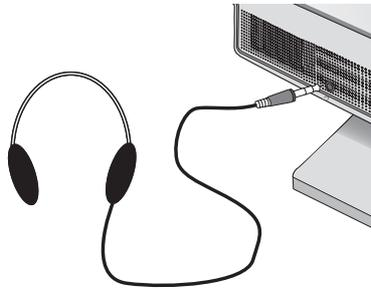

Figure E.1
5. Headphones may be connected to the "Headphones" output on the front of the monitor's bezel marked "🔊" (**Figure E.1**). While the headphones are connected, the sound from the speakers will be disabled. Headphones can be purchased from your local electronics store.